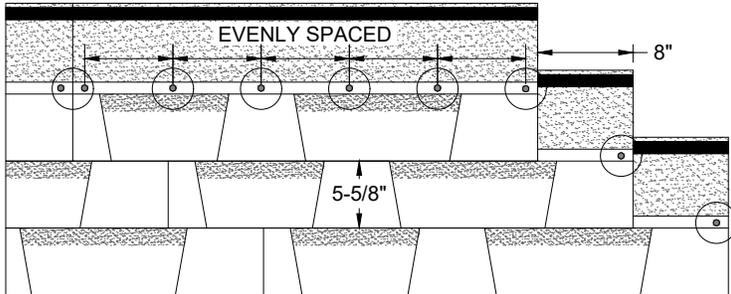

Figure 8 - Laminate, 6-Nail Fastening Pattern
Two methods for fastening can be used, but for each, the outer fasteners must be placed in the nailing area approximately 1" (25 mm) in from each edge. The first method has the remaining four (4) fasteners also placed in the nailing area and evenly spaced between. (See Figure 8)